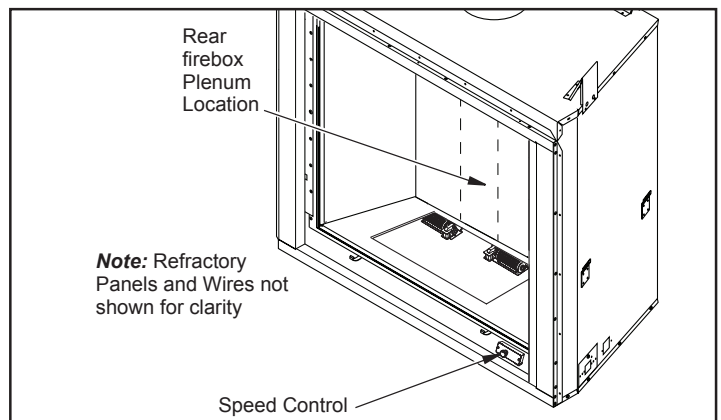

Figure 8 - Blower Kit Location 42" Models only
4. Mount speed control box by placing it in the front lower corner, where it can be easily accessed. We recommend the front right side of the fireplace bottom (See Figure 8).